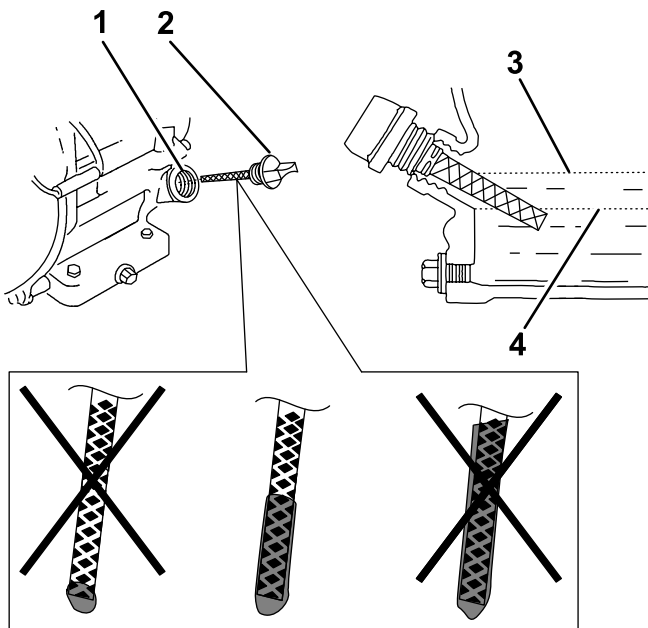

Figure 27
1. Remove the oil cap/dipstick (Figure 27).
2. Slowly pour approximately 80% of the specified amount of oil into the fill port (Figure 27).
4. Install the oil cap/dipstick (Figure 27).